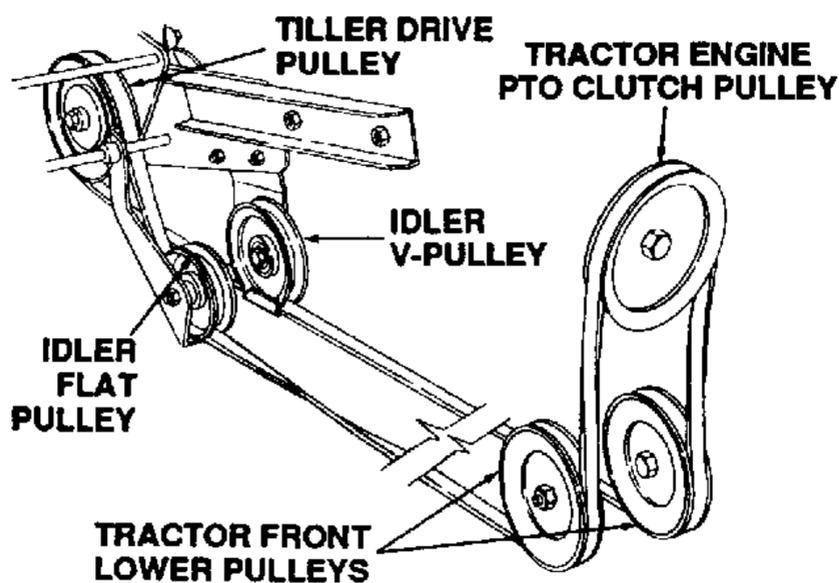

Figure 7-66. Correct PTO Belt Routing.
Proper belt installation is important to the operation of the tiller. When the belt is correctly installed it will have a 180° twist on the right side between the tiller idler bracket and the right front idler pulley of the tractor. Refer to Figure 7-66.
- g. Pull the idler shaft handle rearward and remove the pin (or bolt), then slowly release the handle. The extension spring (12) should apply tension to the handle and PTO belt.
- h. Referring to Figure 7-66, make certain the PTO belt is correctly installed in each pulley and that there is a 180° twist in the belt between the idler bracket pulley and the right front idler pulley of the tractor.